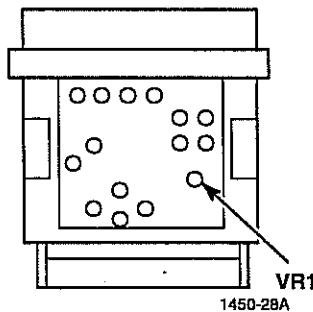
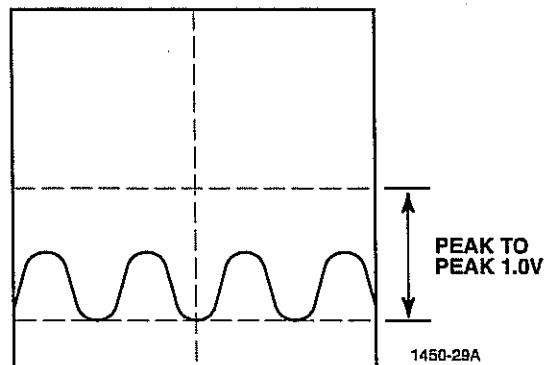
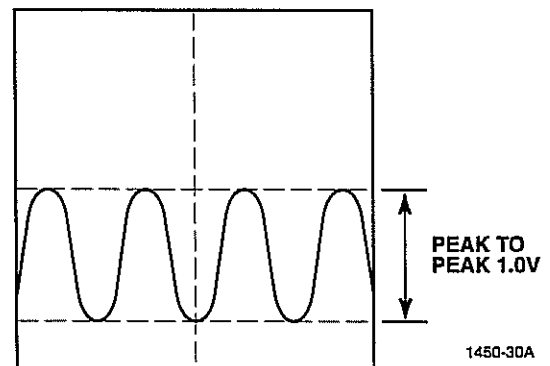

Figure 3-23.
Figure 3-24. Unacceptable Waveform.
Figure 3-25. Peak-to-Peak 1.0V Waveform.
6. Adjust VR1 (Figure 3-23) for a peak-to-peak value of 1.0 VAC. A waveform that falls short of maximum peak height (see Figure 3-24) indicates that further adjustment is required. An acceptable peak-to-peak waveform is illustrated in Figure 3-25.